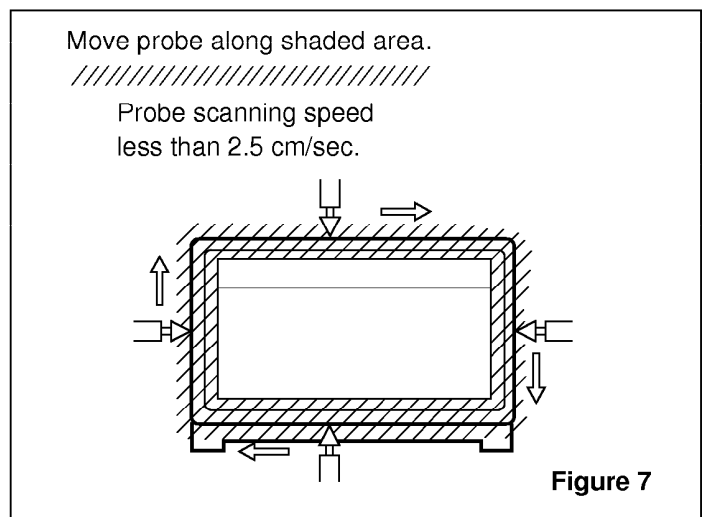

Figure 7
- (1) Pour  $275 \pm 15\text{cc}$  of  $20 \pm 5^\circ\text{C}$  water in a beaker which is graduated to 600 cc, and place the beaker in the center of the oven.
- (2) Set the energy leakage monitor to 2,450 MHz and use it following the manufacturer's recommended test procedure to assure correct result.
- (3) When measuring the leakage, always use the 2 inch (5 cm) spacer supplied with the probe.
- (4) Operate the oven at its maximum output.
- (5) Measure the microwave radiation using an electromagnetic radiation monitor by holding the probe perpendicular to the surface being measured. (See Figure 7)